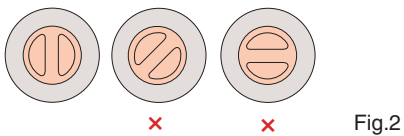

Fig.2
- For horizontal installation, have the rib of the Bata-Check aligned vertically. (Fig. 2)